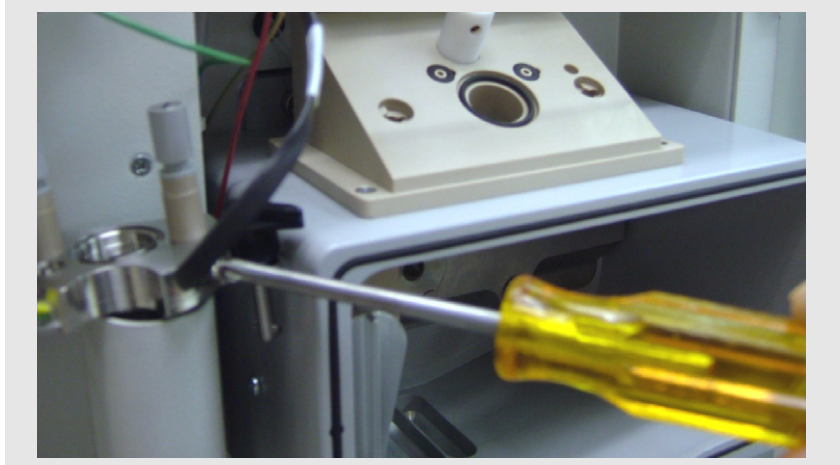

Fig. 56 Probe heater with the operator detaching the grounding strap
The probe heater is attached to the mass detector by the grounding strap, but it is not necessary to remove the grounding strap during the cleaning procedure. See Figure 56.
2. If you disconnected the grounding strap from the probe heater, reconnect it to the probe heater. See Figure 56 on page 83.